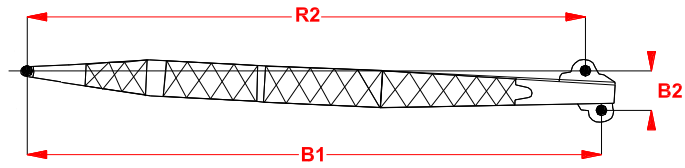

Figure 3-15 The Y and Z offset of the boom and the sheave distance (R2)
- Fill in the distance between the connection point of the boom and the centre of the first sheave on the boom (R2). See also Figure 3-15 on page 16.